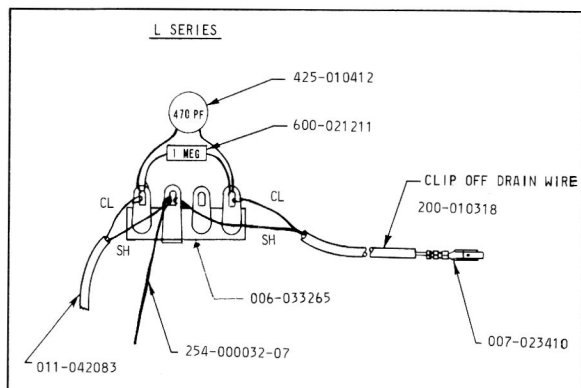

FIGURE 2-2.
- 2-6. ASSEMBLY OF TERMINAL STRIP (NOT REQUIRED FOR L-100-1).**— Assemble terminal strip as shown in Figure 2-2, using 470 pf capacitors, 425-010412, and 1 meg. resistor 600-021211.
4. Solder free ends of wire to terminal strip assembly as shown in Figure 2-2.
6. Assemble connector pin 007-023410, to one end of shielded lead, 200-010318, as shown in Figure 2-2. Solder other end of shielded lead to terminal strip as shown in Figure 2-2. Connect pin into the six-pin plug located toward the right (rear view) of the organ preamplifier chassis. Correct position is the vacant one between gray and green wires.
3. Insert phone plug of wire and plug assembly, 011-042083, into phone jack on voice generator assembly. Solder free ends of wire to terminal strip assembly as shown in Figure 2-2.
4. Connect 22 ga. black wire 254-000032-07 from terminal strip assembly to any convenient ground lug on organ. See Figure 2-2.
10. Assemble connector pin 007-023410, to one end of shielded lead, 200-010318, as shown in Figure 2-2. Solder other end of shielded lead to terminal strip as shown in Figure 2-2. Connect pin into the six-pin plug located toward the right (rear view) of the organ preamplifier chassis. Correct position is the vacant one between gray and green wires.